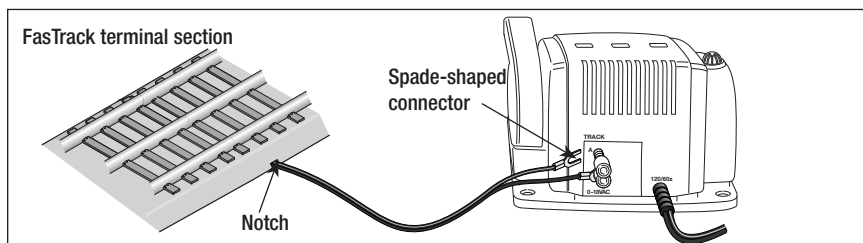

Figure 4. Controller connections
1. **Feed the wires through the notch in the FasTrack terminal section.** Refer to Figure 4.